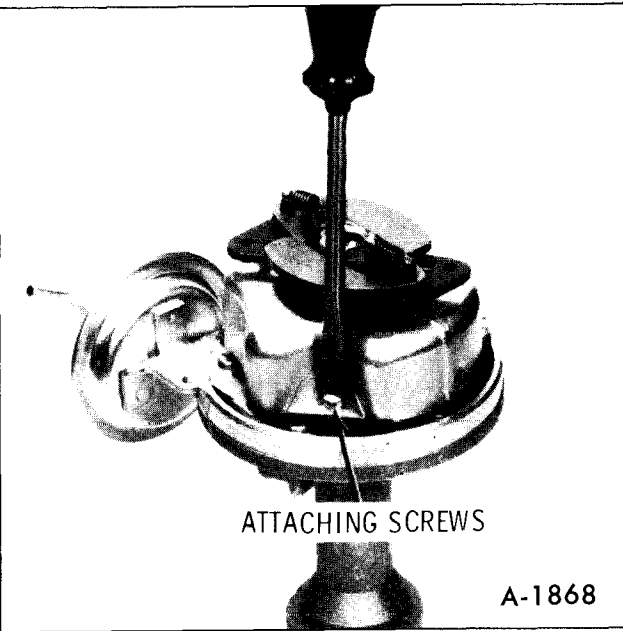

Figure 29—Removing Point Shield
2. Remove two piece metal shield attaching screws and shields. Figure 29.